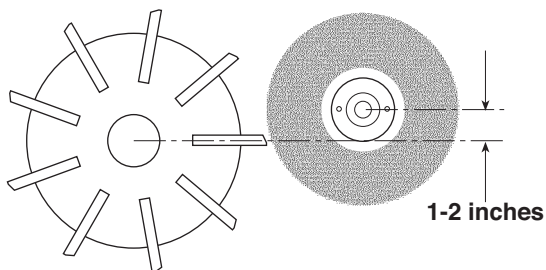
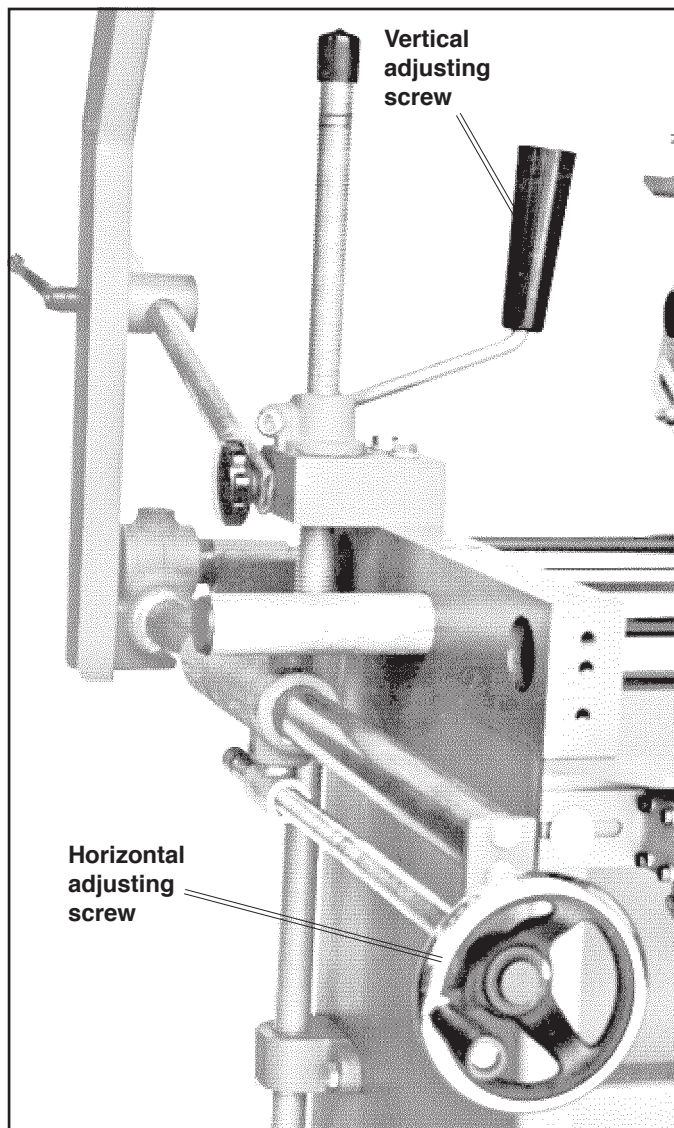

Figure 3.4 Reel position
Figure 3.5 Reel support adjustments
3.3.2 Adjust the reel up or down, using the reel support vertical adjusting screws, until the center of the reel is at about one to two inches below the center of the grinding wheel (see Figure 3.4). Since the finger point is adjustable, this position is not critical and you may find a better position for your type of reel (Figure 3.5).